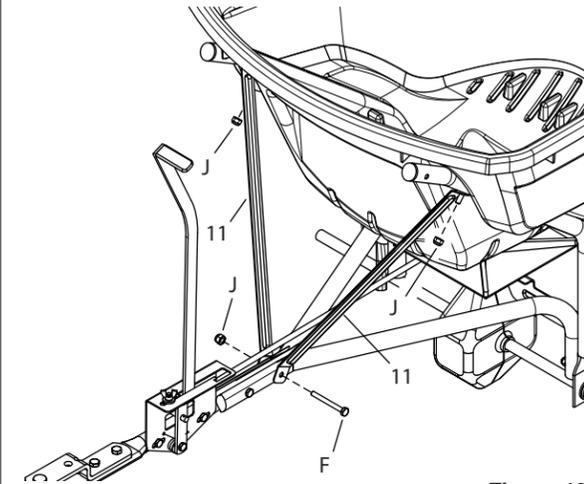

Figure 13
STEP 15: (SEE FIGURE 13)
- Slide a 5/8" washer (O), a spacer (L), a 5/8" washer (O) and a wheel onto the end of the axle with a hole.
- **Insert a 3/16" x 2" cotter pin (R) into the wheel stud and out through the other end. Spread both ends of the cotter pin.**
- Carefully hammer a hub cap (Z) onto the axle.